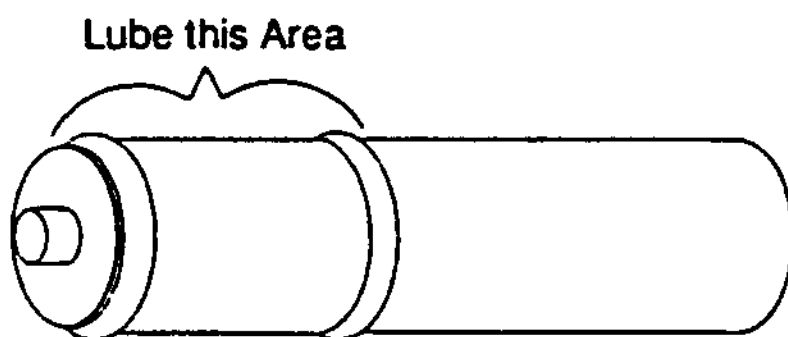

Fig. 6
2. Lubricate the spigot plungers with petrogel or another food grade lubricant as shown in (Fig. 6).